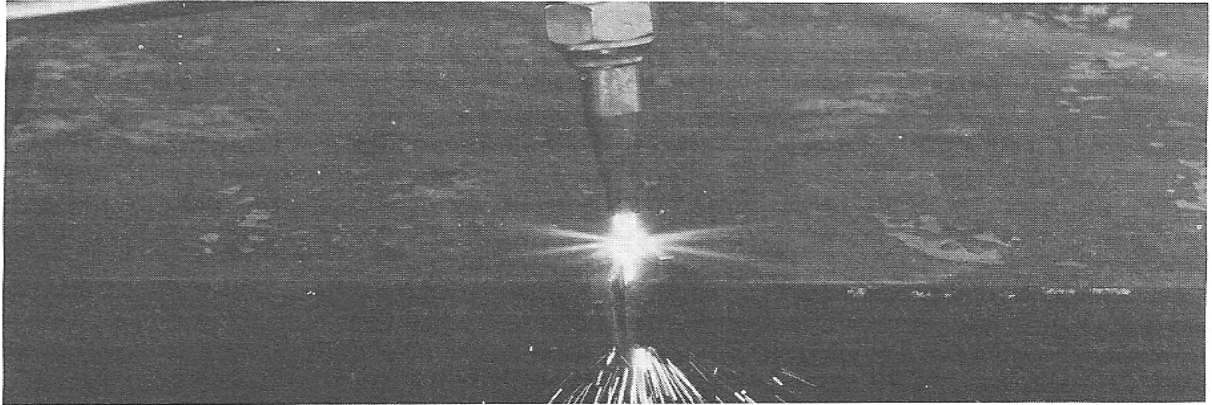

Figure 27, Cutting
19. When the cut starts, move the torch in the direction you wish to cut (see Figure 27, page 36).